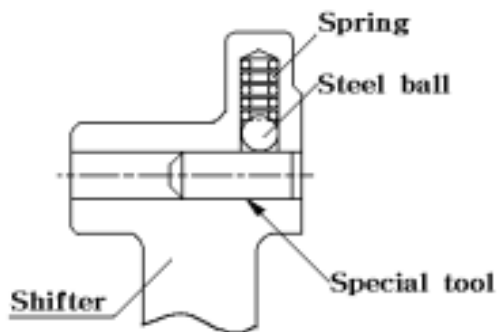

Fig.5-56
c. When installing the shifter on the shifter stay, Use the special tool as shown in Fig.5-56